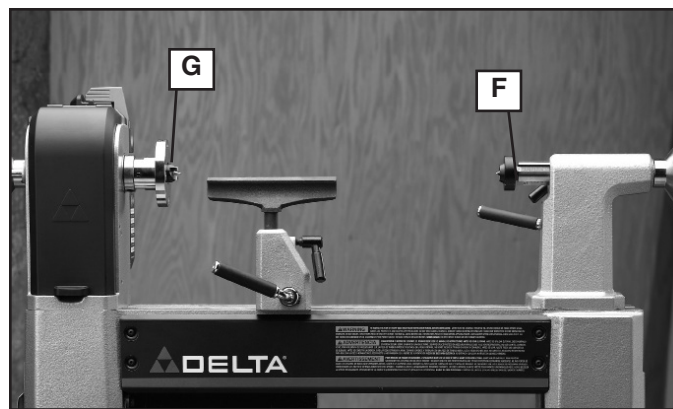

Fig. 5
The spur center (G) Fig. 5 and live center (F) can be used together (as shown in Fig. 5) to turn workpieces up to 16-1/2" (419 mm) in length.